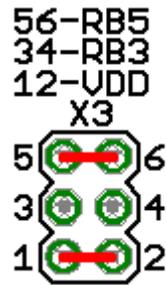

Figure 8
- Check whether 2 jumpers are installed to X3 jumper block. See Figure 8: